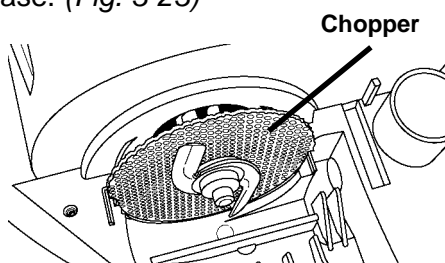

Fig. 3-23
5. Remove the chopper assembly from the impeller shaft and lift it from the sump base. (Fig. 3-23)